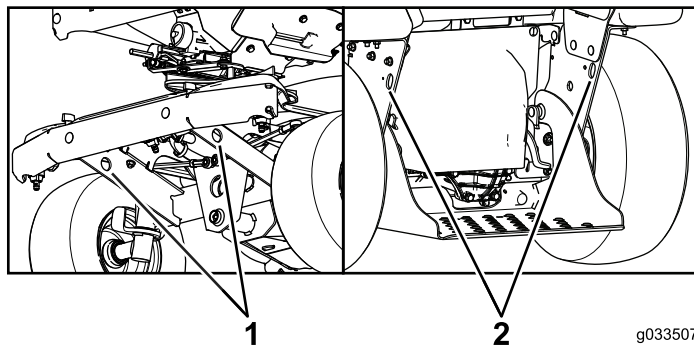

Figure 68
4. Use the tie-down points on the machine to securely bind the machine to the trailer or truck with straps, chains, cable, or ropes (Figure 68). Refer to local regulations for trailer and tie-down requirements.